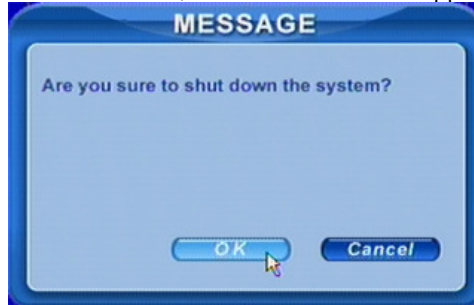

Fig 3.3 Shut down
STEP2 Click Shut down button, refer to Fig 3.3 Shut down